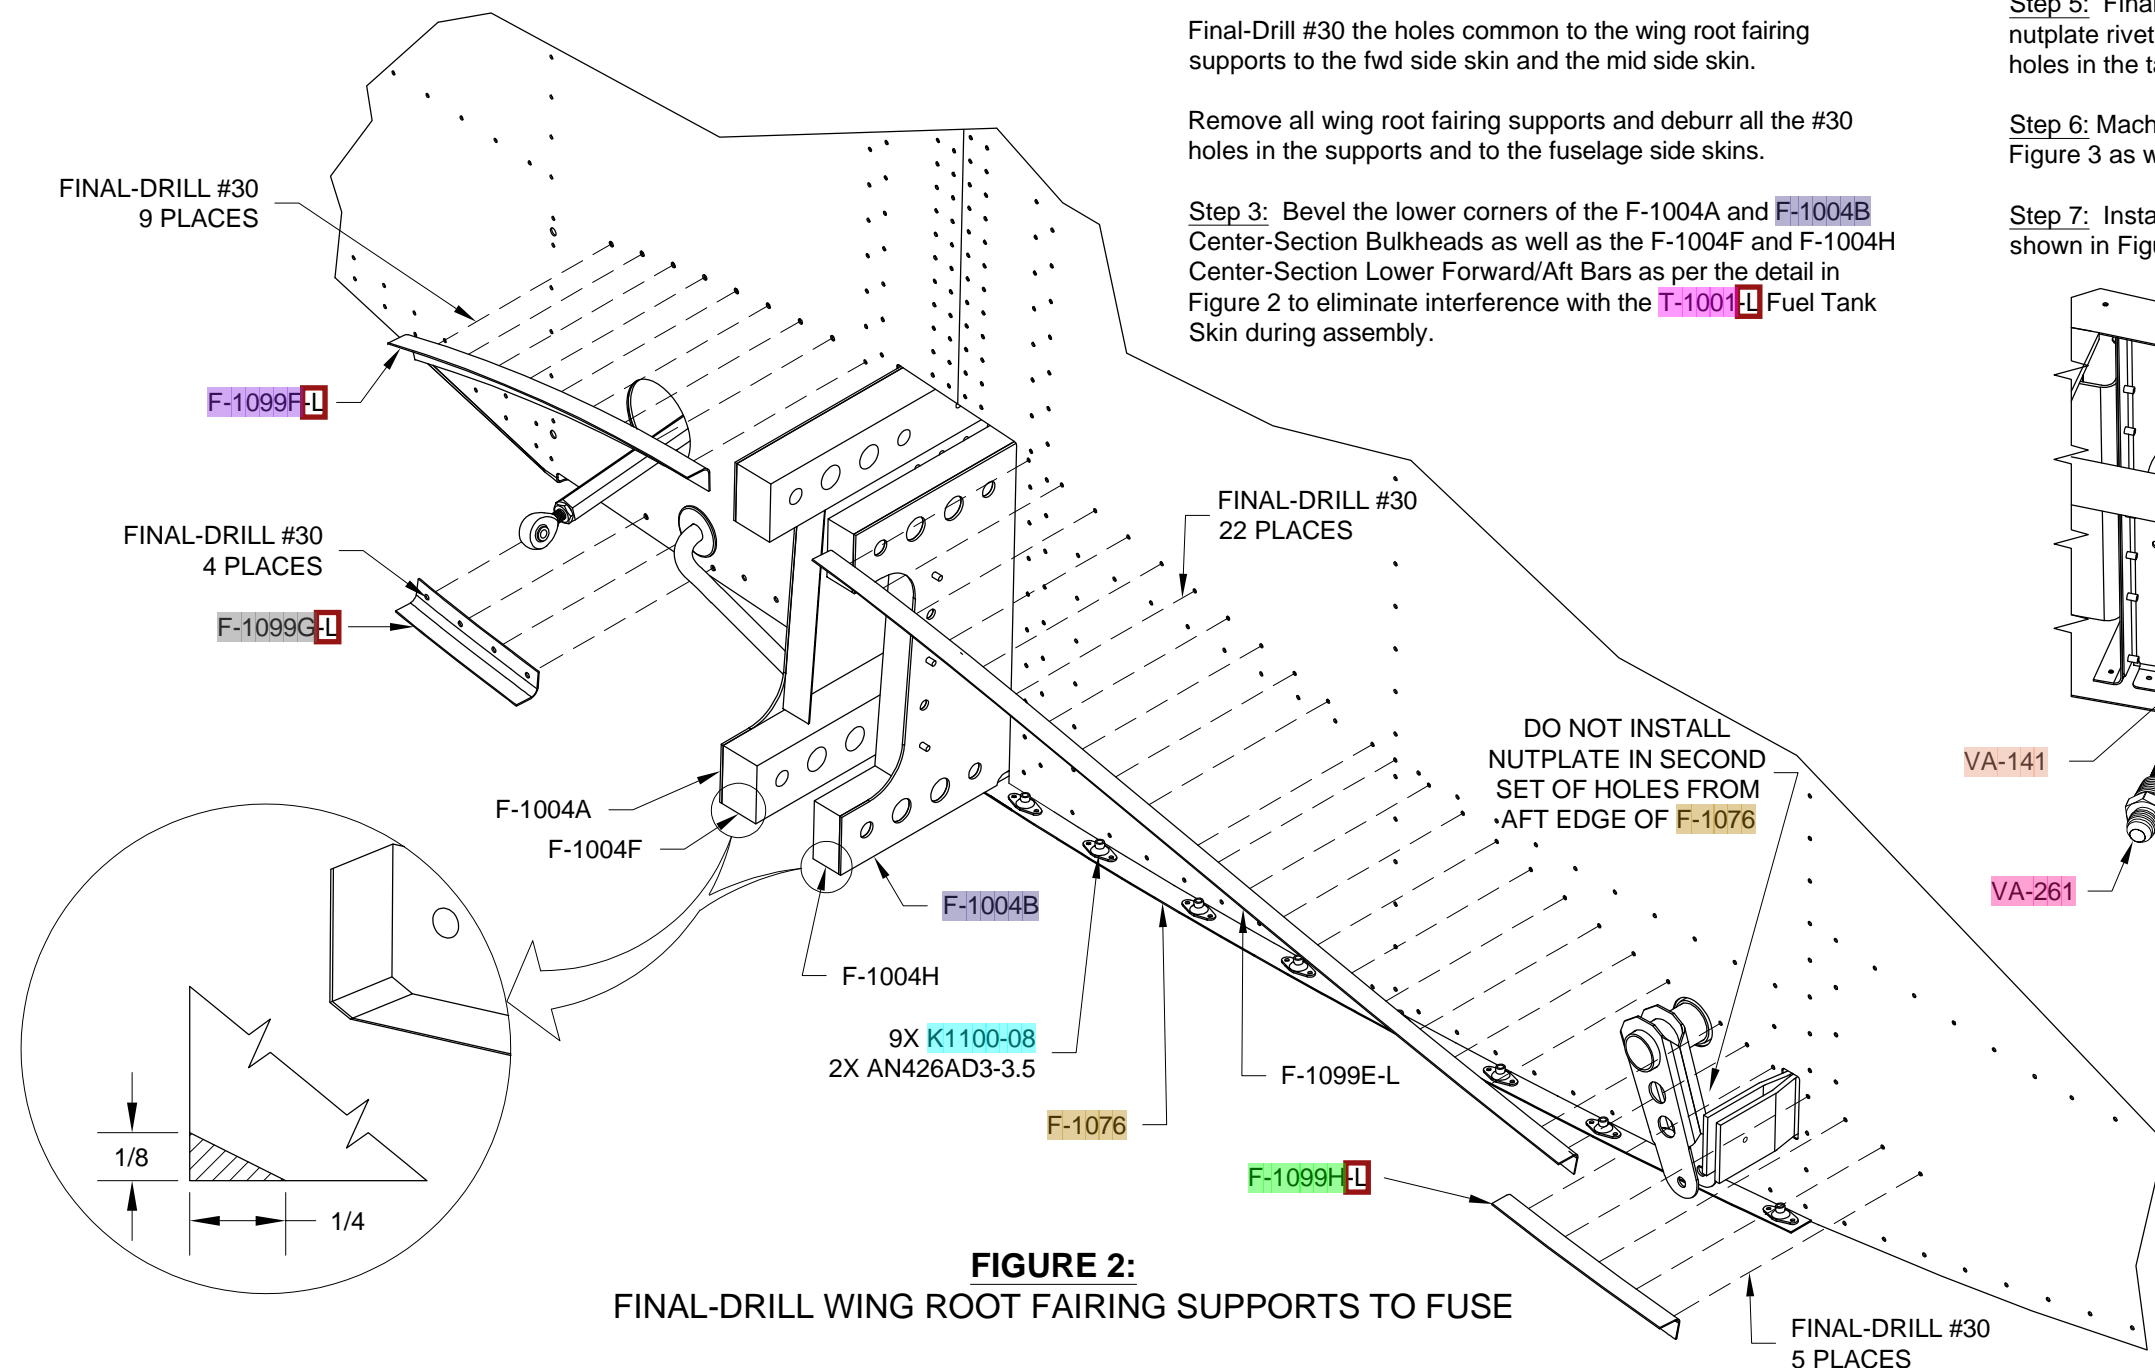

FIGURE 2: FINAL-DRILL WING ROOT FAIRING SUPPORTS TO FUSE
Step 2: Flute the vertical flanges of the **F-1099E/F/G** and **H-L** Wing Root Fairing Supports if/as required to make them follow the pattern of pre punched holes in the **F-1069-L** Fwd Side Skin and the **F-1070-L** Mid Side Skin as shown in Figure 2. Cleco them to the fuselage as shown in Figure 2.
Step 3: Bevel the lower corners of the **F-1004A** and **F-1004B** Center-Section Bulkheads as well as the **F-1004F** and **F-1004H** Center-Section Lower Forward/Aft Bars as per the detail in Figure 2 to eliminate interference with the **T-1001-L** Fuel Tank Skin during assembly.
Step 4: Install nine **K1100-08** nutplates to the **F-1076** Center Bottom Skin as shown in Figure 2. Final-Drill #40, deburr and dimple the nutplate rivet holes and the nutplates. Final-Drill #19, deburr and dimple the 3/32 center screw holes to receive the **F-1099B** Lower Wing Root Fairing dimpled for an AN509-8R8 screw. Rivet the nutplates to the fuselage bottom skin as per the callouts.